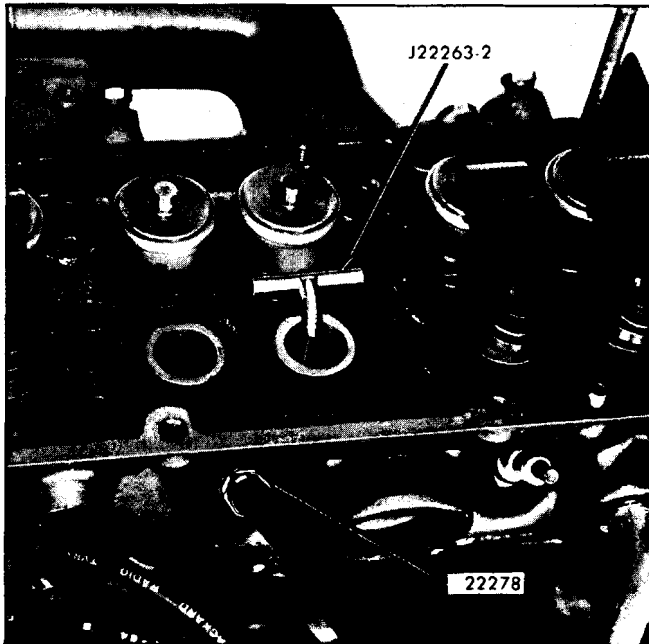

Fig. 6-23 Valve Spring Removal Hook-Up
3. Remove spark plug from cylinder of valves to be serviced and install J 22278 (Fig. 6-23).
5. Install hook end of tool J 22263-2 into oil feed hole in lash adjuster bore (Fig. 6-23).